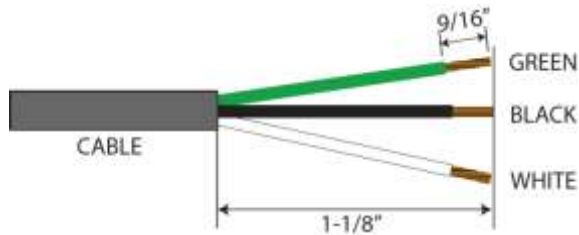

FIGURE 1
- Cable Prep:** Feed the cable end through the housing and strip the cord as shown in Figure 1 below. Make sure the wire is clean, and a bright copper color. Do not solder the ends of the wire